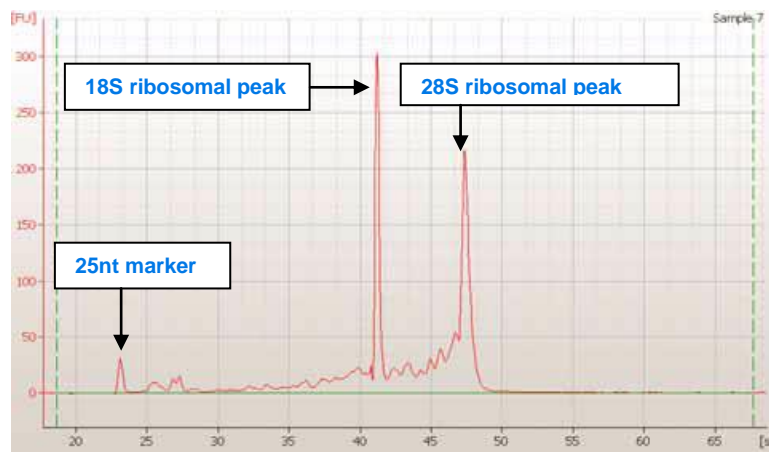

Figure 2. RNA peaks of a successful assay for Eukaryotic RNA ^[1]
- 2 ribosomal peaks (with successful sample preparation) [figure 2]